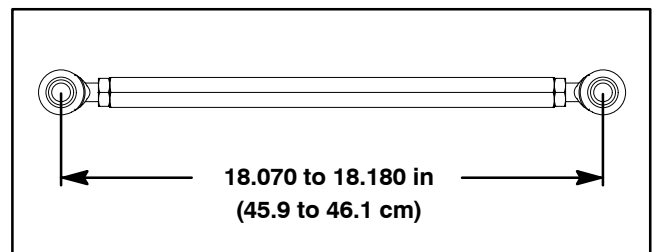

Figure 26
B. If ball joints were removed from link (item 13), install ball joints equally on both ends of link. Adjust center to center length of link assembly from **18.070” to 18.180” (45.9 to 46.1 cm)** (Fig. 26). Tighten jam nuts to secure ball joints to link. Make sure that ball joints stay inline when tightening jam nuts.